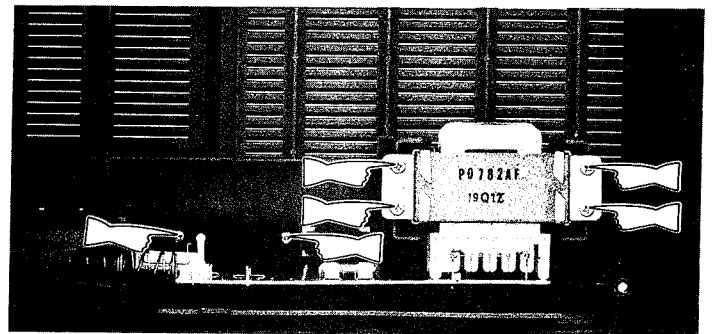

Figure 7-5
1. Remove four screws at the power transformer and two screws at the AC socket. Then detach the power P.W.B. See Fig. 7-5.